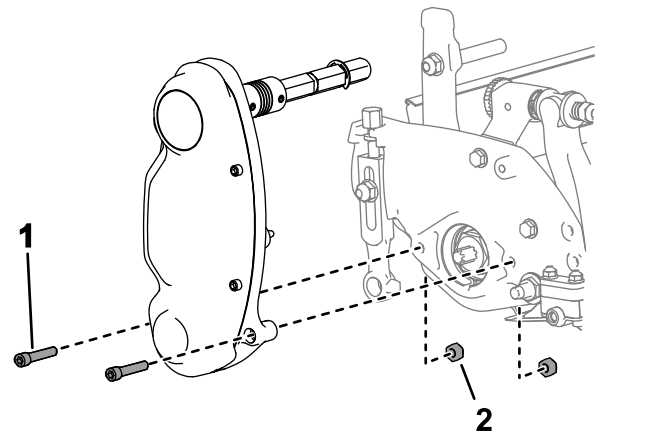

Figure 13
1. Remove the hardware that secures the reel-drive assembly to the side plate (Figure 13).
2. Remove the nuts from the inside of the side plate (Figure 13).